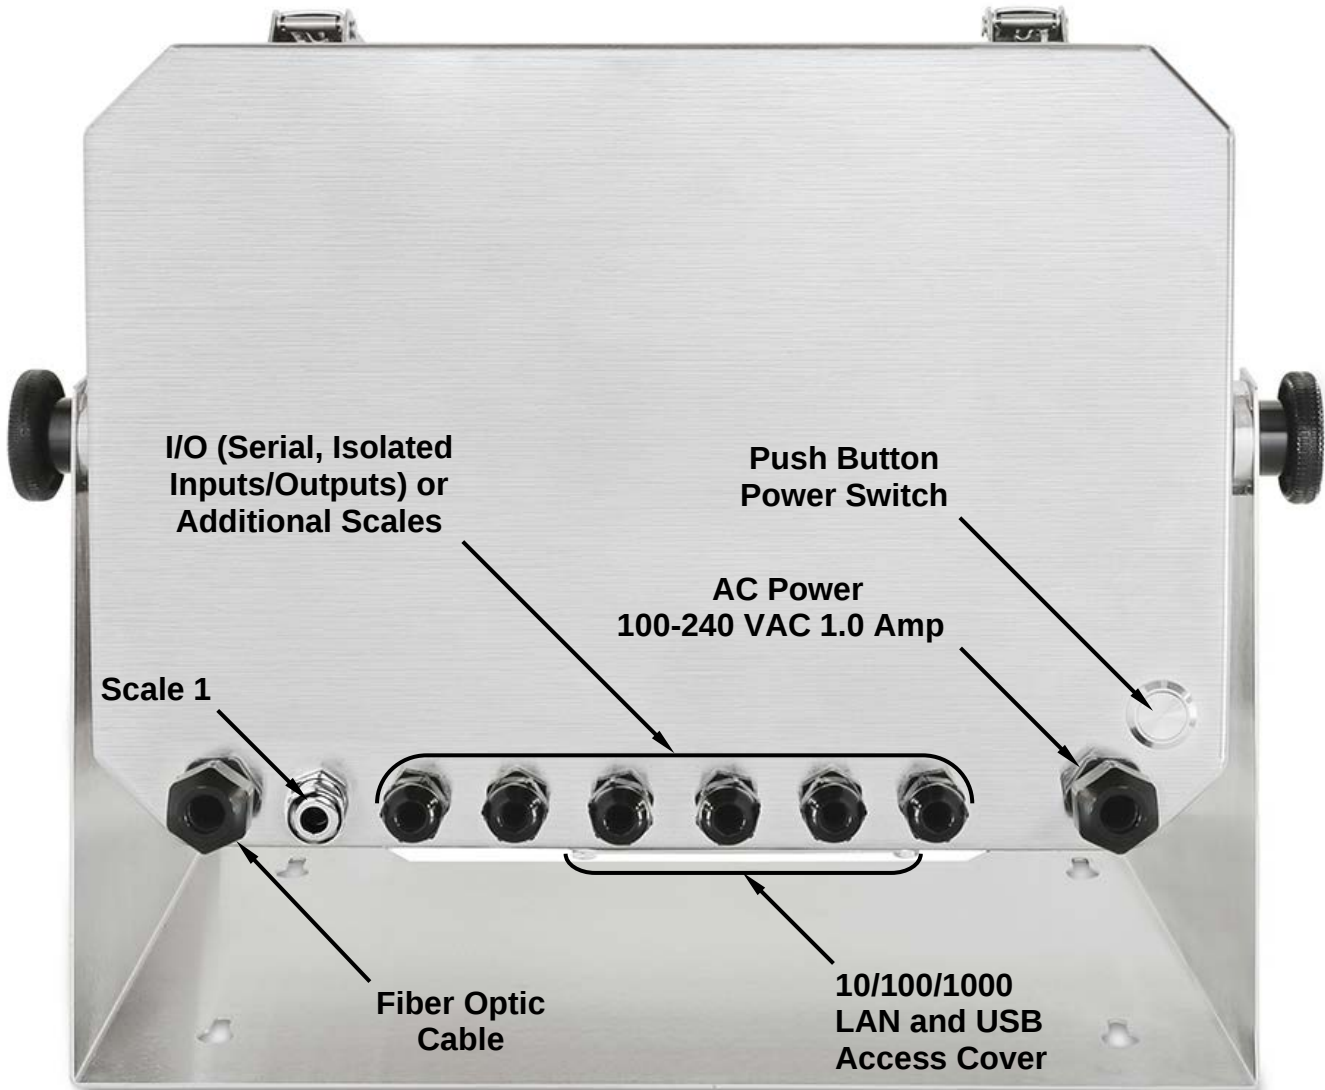

Figure No. 2
To eliminate RFI, the load cell cable should be routed through the special metallic gland connector, and the shield wire from the load cell cable must be connected to this gland connector for grounding. Refer to Figure No. 2 for the gland connector layout.
2. Referring to Figure No. 2, choose a gland connector for the load cell cable and loosen it.
2. Referring to Figure No. 2, choose a gland connector for the I/O cable and loosen it.